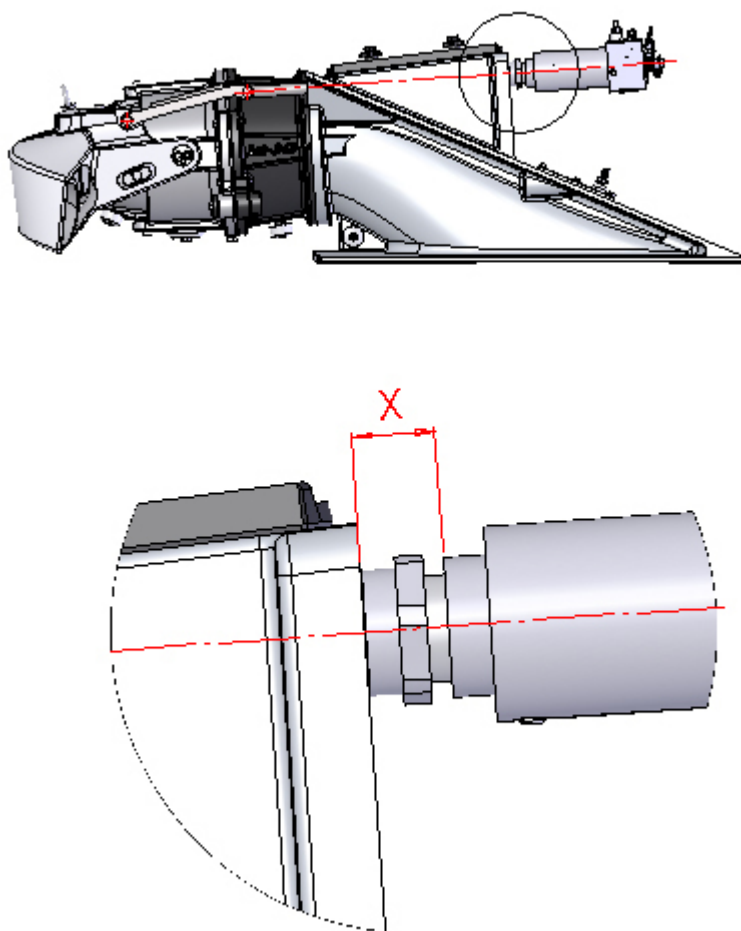
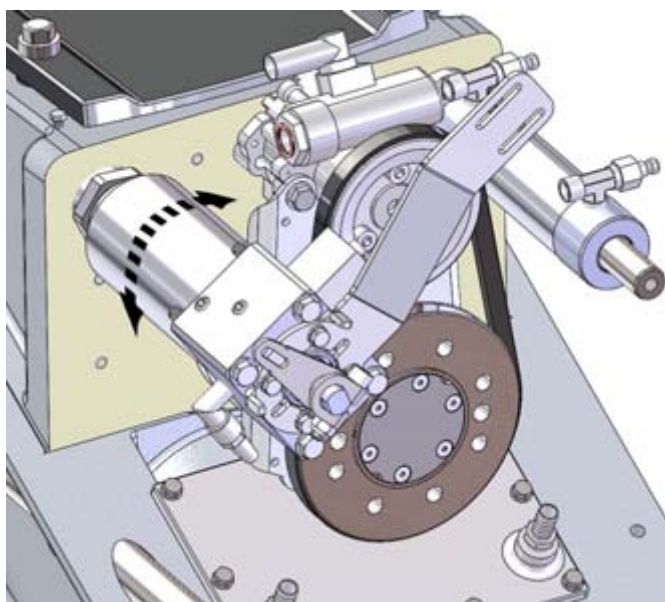

Figure 66. Cylinder dimensions
Figure 67. Adjusting the cylinder's position
4. When the correct measurement $X \sim 31$ mm is met (figure 66), apply some sealing compound (such as Sikaflex 291i) on the thread, and tighten the nut. You can turn the cylinder slightly if you want the cable clamp to point directly in the cable's direction of entry (figure 67).